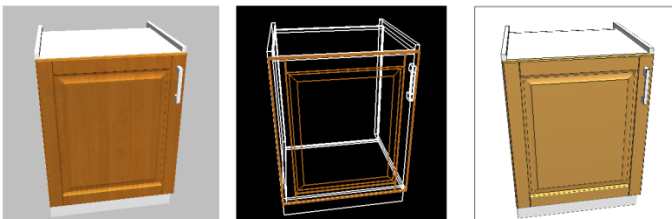

Fig. 191 – various ways of displaying the model
-   **Shaded model with textures, Grid model, Grid model with shading** – determine the way the model is displayed (Fig. 191);
-  **Background** – changes the background colour to black, grey or white (Fig. 191);